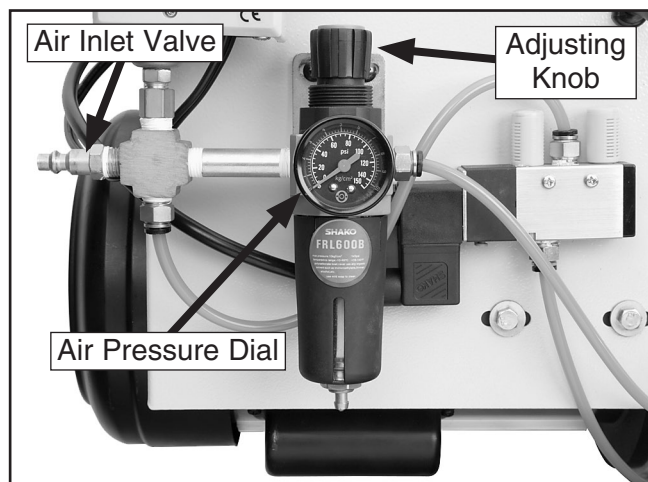

Figure 13. Air regulator unit on back of sander.
9. Lift up on the air regulator adjusting knob (see **Figure 13**), and turn the knob so that the air pressure dial reads 57 PSI, then push the adjusting knob down to lock the setting.